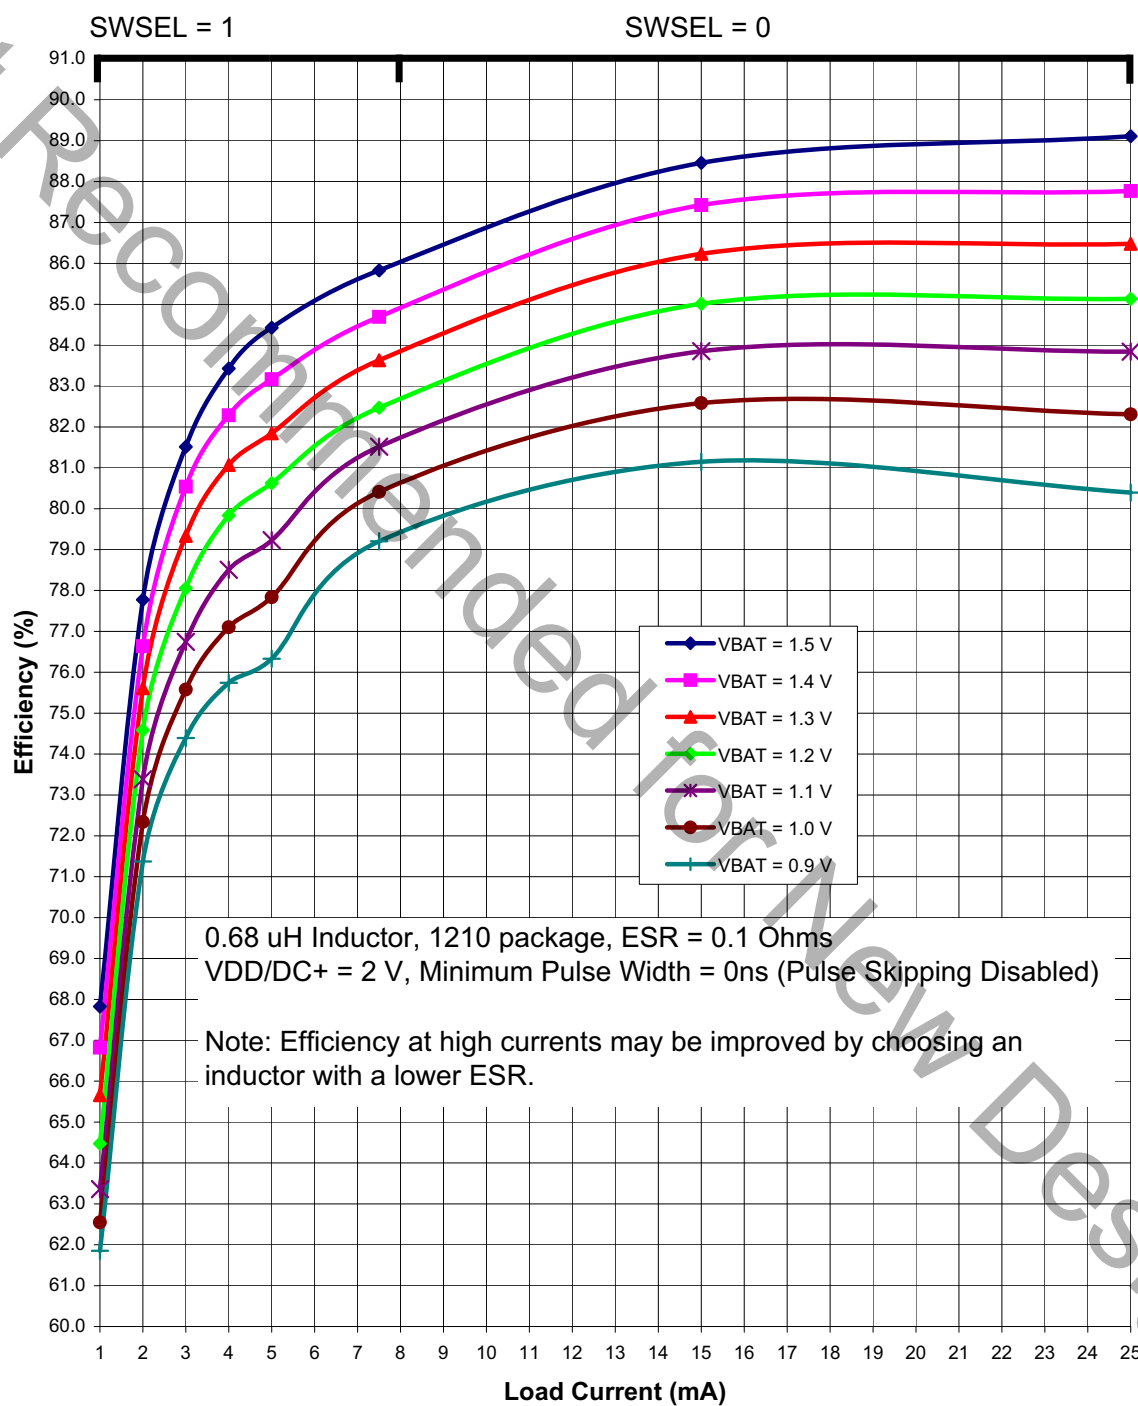
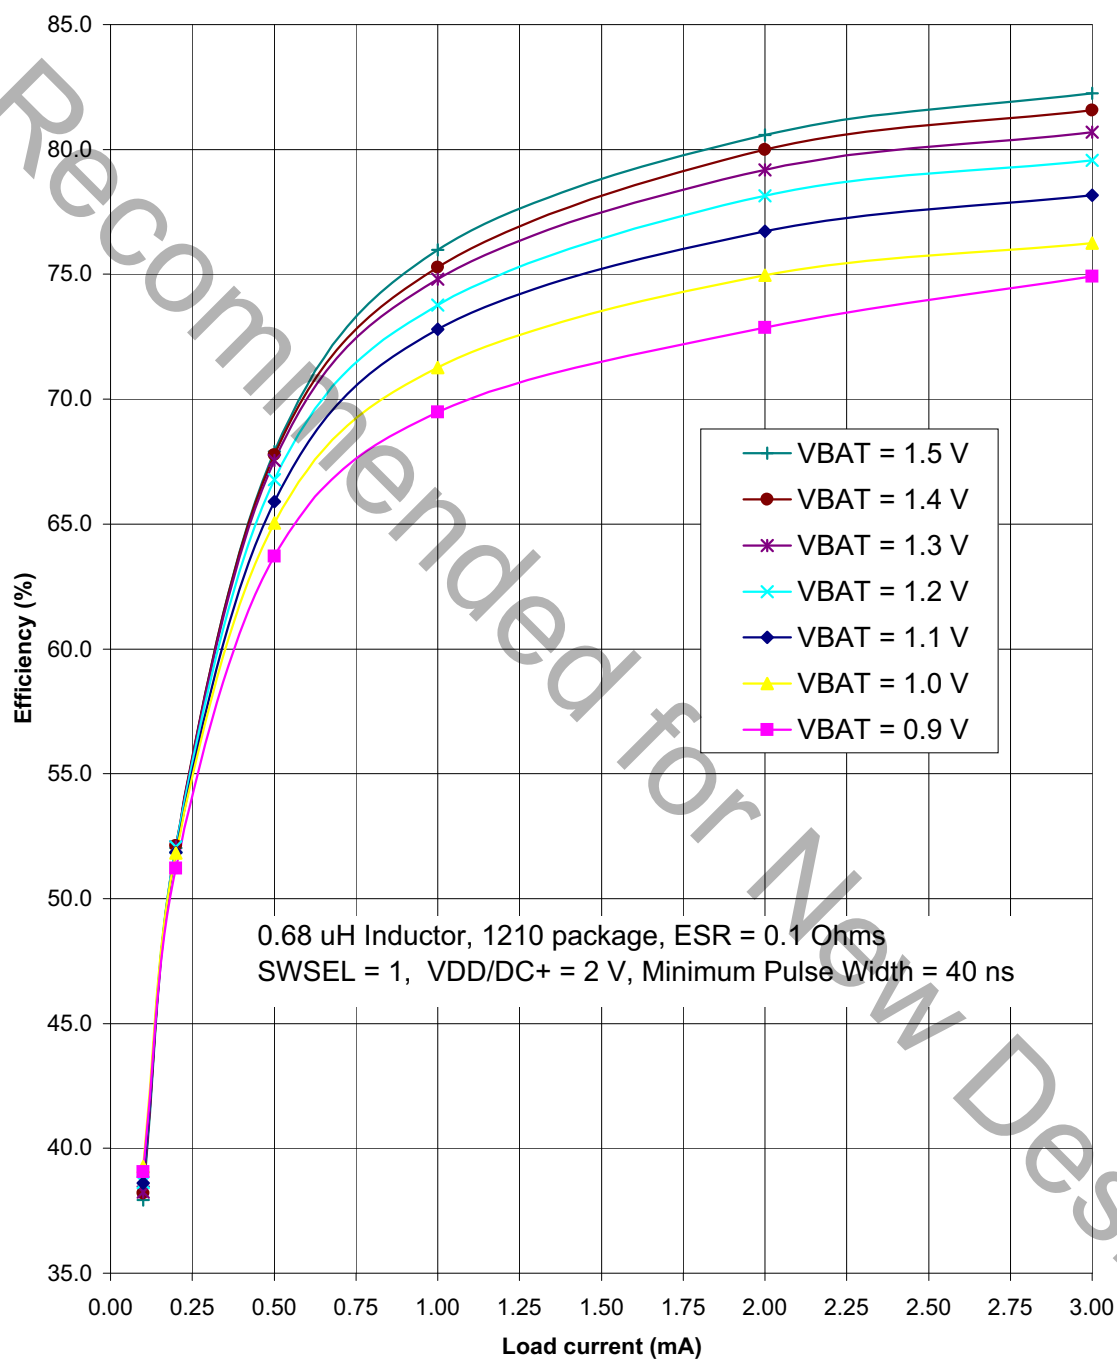

Figure 4.3. Typical DC-DC Converter Efficiency (High Current, VDD/DC+ = 2 V)
Figure 4.5. Typical DC-DC Converter Efficiency (Low Current, VDD/DC+ = 2 V)
<p>Notes:</p> <ol style="list-style-type: none"> <li>1. Based on device characterization data; Not production tested.</li> <li>2. SYSCLK must be at least 32 kHz to enable debugging.</li> <li>3. Digital Supply Current depends upon the particular code being executed. The values in this table are obtained with the CPU executing an "sjmp \$" loop, which is the compiled form of a while(1) loop in C. One iteration requires 3 CPU clock cycles, and the flash memory is read on each cycle. The supply current will vary slightly based on the physical location of the sjmp instruction and the number of flash address lines that toggle as a result. In the worst case, current can increase by up to 30% if the sjmp loop straddles a 128-byte flash address boundary (e.g., 0x007F to 0x0080). Real-world code with larger loops and longer linear sequences will have few transitions across the 128-byte address boundaries.</li> <li>4. Includes oscillator and regulator supply current.</li> <li>5. IDD can be estimated for frequencies ≤10 MHz by simply multiplying the frequency of interest by the frequency sensitivity number for that range, then adding an offset of 90 µA. When using these numbers to estimate IDD for &gt;10 MHz, the estimate should be the current at 25 MHz minus the difference in current indicated by the frequency sensitivity number. For example: VDD = 3.0 V; F = 20 MHz, IDD = 4.1 mA – (25 MHz – 20 MHz) x 0.120 mA/MHz = 3.5 mA.</li> <li>6. The Supply Voltage is the voltage at the VDD_MCU pin, typically 1.8 to 3.6 V (default = 1.9 V). Idle IDD can be estimated by taking the current at 25 MHz minus the difference in current indicated by the frequency sensitivity number. For example: VDD = 3.0 V; F = 5 MHz, Idle IDD = 2.5 mA – (25 MHz – 5 MHz) x 0.095 mA/MHz = 0.6 mA.</li> <li>7. The supply current specifications in Table 4.2 are for two cell mode. The VBAT current in one-cell mode can be estimated using the following equation:  <math display="block">\text{VBAT Current (one-cell mode)} = \frac{\text{Supply Voltage} \times \text{Supply Current (two-cell mode)}}{\text{DC-DC Converter Efficiency} \times \text{VBAT Voltage}}</math> <p>The VBAT Voltage is the voltage at the VBAT pin, typically 0.9 to 1.8 V.  The Supply Current (two-cell mode) is the data sheet specification for supply current.  The Supply Voltage is the voltage at the VDD/DC+ pin, typically 1.8 to 3.3 V (default = 1.9 V).  The DC-DC Converter Efficiency can be estimated using Figure 4.3–Figure 4.5.</p> </li> <li>8. The radio peripheral is placed in Shutdown mode.</li> </ol>